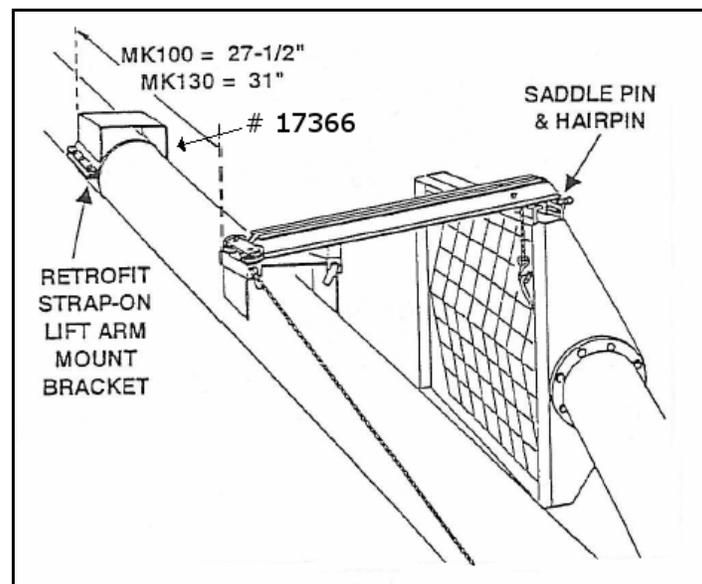

Figure 5
2. Remove present lift arm and cable, then attach the strap-on lift arm mount bracket above present bracket as shown (Figure 5) with the MK100 bracket at 27-1/2" and the MK130 at 31". Measure from upper edge of each bracket.